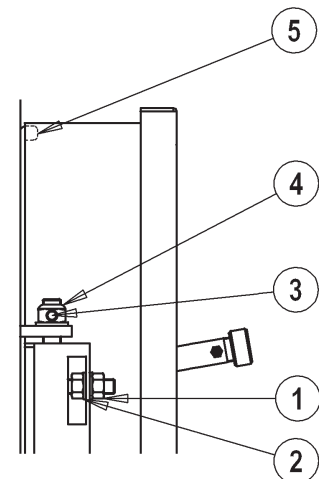

fig. 9
5.6.1 For models PREXTHERM RSW 92N+600N(Fig. 9)